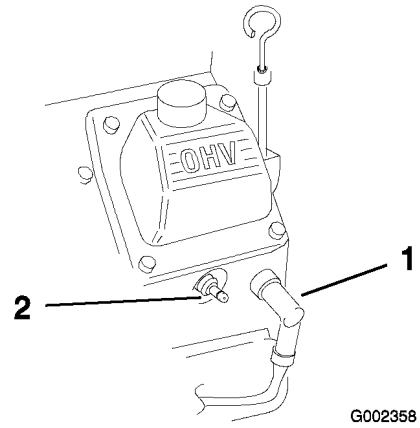

Figure 38
3. Disconnect the wires from the spark plugs (Figure 38).